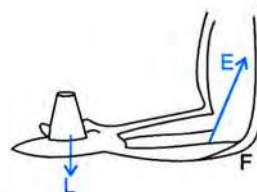

Fig. 3.9 Raising a load kept on a palm (Forearm as Class III lever)
- (3) Class III lever in raising a load by forearm :** Fig. 3.9 shows the action of